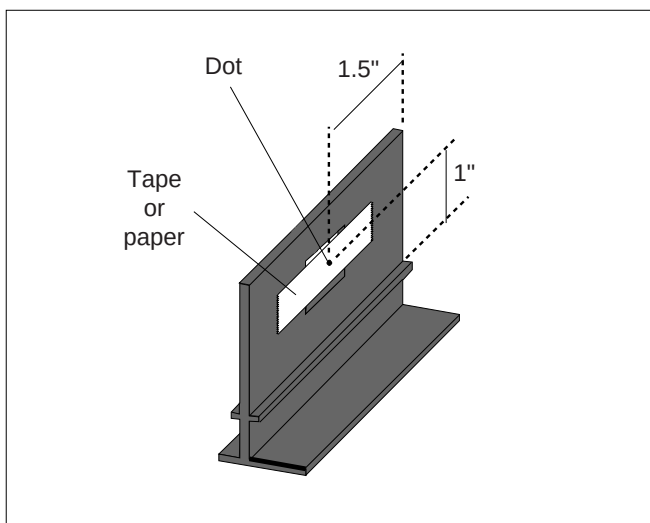

Figure 2 Locating the Optical Axis
1. Place a piece of masking tape or tape a piece of paper over the square hole on the front of a component holder, as in Figure 2. Make a small dot on the tape or paper, in the center of the square hole (1-inch from the top of the component shelf, and 1.5-inch from the edge of the component holder).